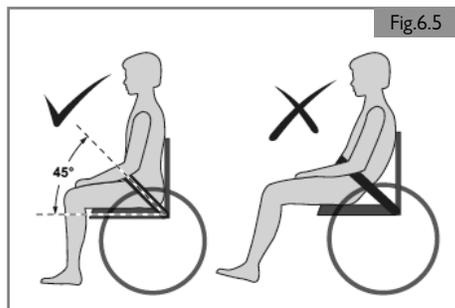

Fig.6.5
9. Generally, the lap strap should be fixed so that the straps sit at an angle of approximately 45° and when correctly adjusted should not allow user to slip down in the seat. (Fig. 6.5)